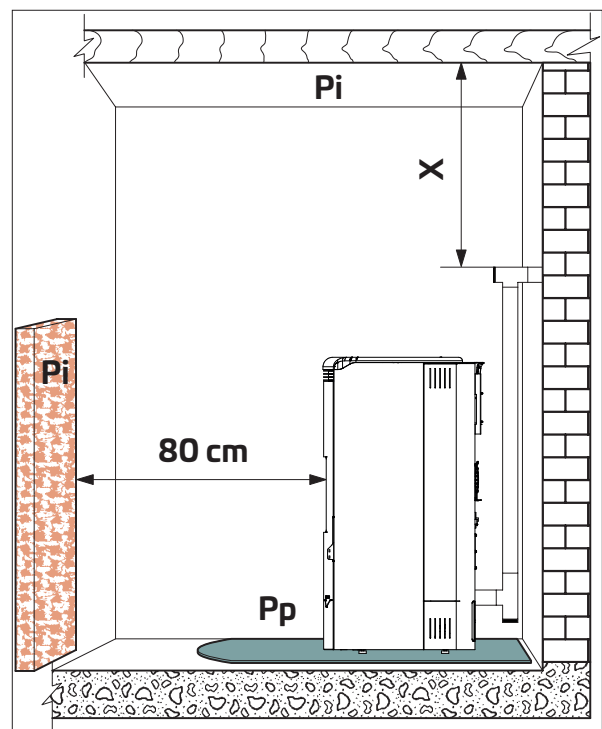

Fig. 5.3
Remember to respect the minimum distance from flammable materials (X) shown on the identification plate of the pipes used to make the chimney (Fig. 5.3).